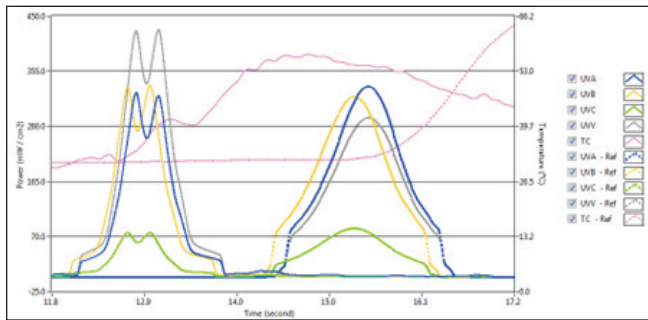

Figure 4.
- 2. Lamp focus conditions and changes to the focus:** Figure 4 shows two sources. The first source (left) is mercury-gallium based on the UVA:UVV ratio. It is a non-focused source based on the characteristic “double peak,” which often results from a physical position change (lamp to substrate, substrate height itself and/or change in the position of the bulb to the reflector). Non-focused sources often are used to control process parameters, including product gloss. All things being equal, a non-focused source normally has lower irradiance value. This could cause issues if the process was designed to have a focused source. The second source is a focused mercury source. Look at the balance between the UVA and UVB. The graph also shows the temperature profile with the values on the right Y Axis. The data were collected with a thermocouple attached to an EIT PowerMAP II. The temperature peaks a second or so past the UV source.